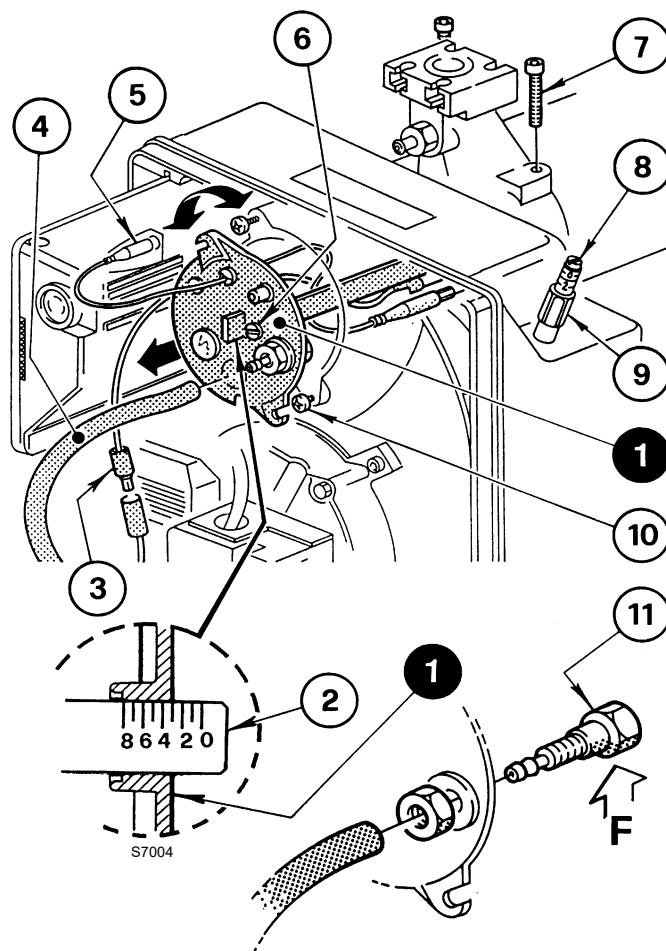

Fig. 13
This is carried out by turning the adjustment screw 6)(Fig. 13) clockwise or anti-clockwise until the notch on the regulating rod 2) lines up with the outside surface of the head assembly 1).
In Fig. 13 the head regulating rod is set to notch 3.
To remove the head assembly (Fig. 13) it is necessary to:
Reassemble with the reverse procedure to that described above, repositioning the head assembly 1)(Fig. 13) as it was originally.
Screw in the screws 7)(Fig. 13) all the way without locking them. Lock them with a tightening torque of 3 - 4 Nm.
If the pressure test point (11) should become slack accidentally(Fig. 13) we recommend fixing it correctly ensuring that the hole (F) (Fig. 13) inside the head assembly 1)(Fig. 13) is facing downwards.